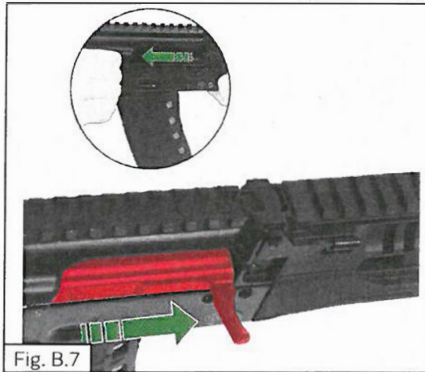

Fig. B.7
- pull the bolt carrier fully rearward as shown in Fig. B.7 and release it abruptly. Make sure it is fully forward.